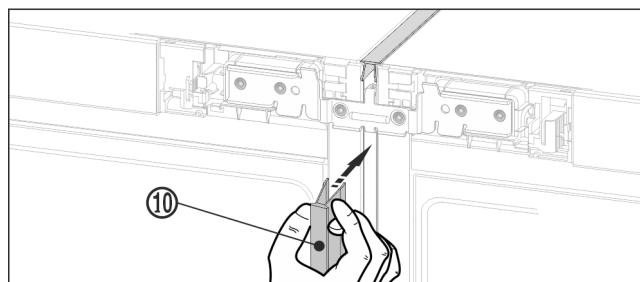

Fig. 21
- ▶ On the front, press the long cover strip Fig. 21 (10) into the vertical gap. Ensure that the strip rests on the connecting plate.